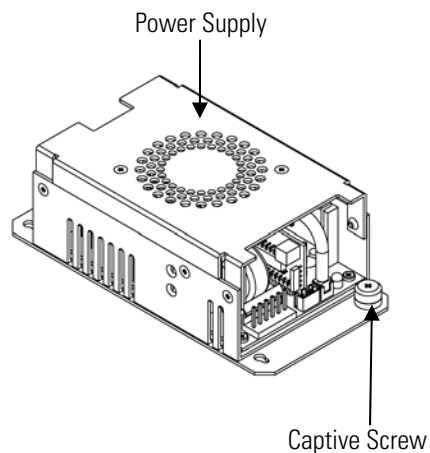

Figure 7–10. Replacing the DC Power Supply
1. Connect a meter to the channel to be tested. **Figure 7–11** shows the analog output pins and **Table 7–4** identifies the associated channels.